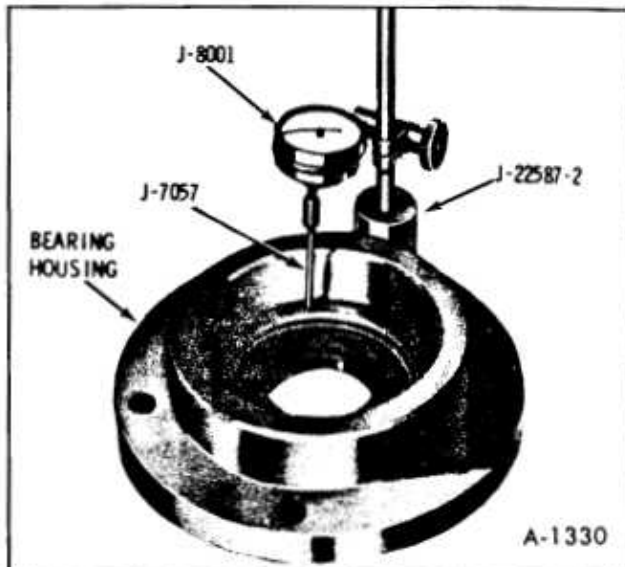

Figure 42—Checking Inner Flange Of Housing
4. With dial indicator J-8001 and extension J-7057, attach existing dial indicator post to Tool J-22587-2. (figure 42) While holding contact studs (three) of Tool J-22587-2 firmly against shoulder of bearing housing, position dial indicator as shown in Figure 42 and rotate dial to ZERO.